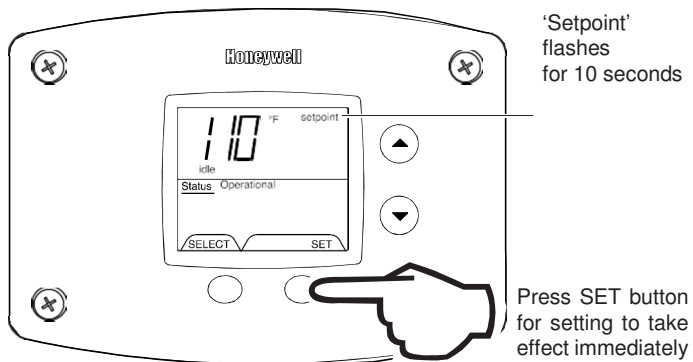

Fig. 19
3. Press 'SET' button for new setting to take effect immediately. 'Setpoint' will stop flashing. If the 'SET' button is not pressed, the new temperature setting will take effect in approximately 10 seconds (Fig. 19).